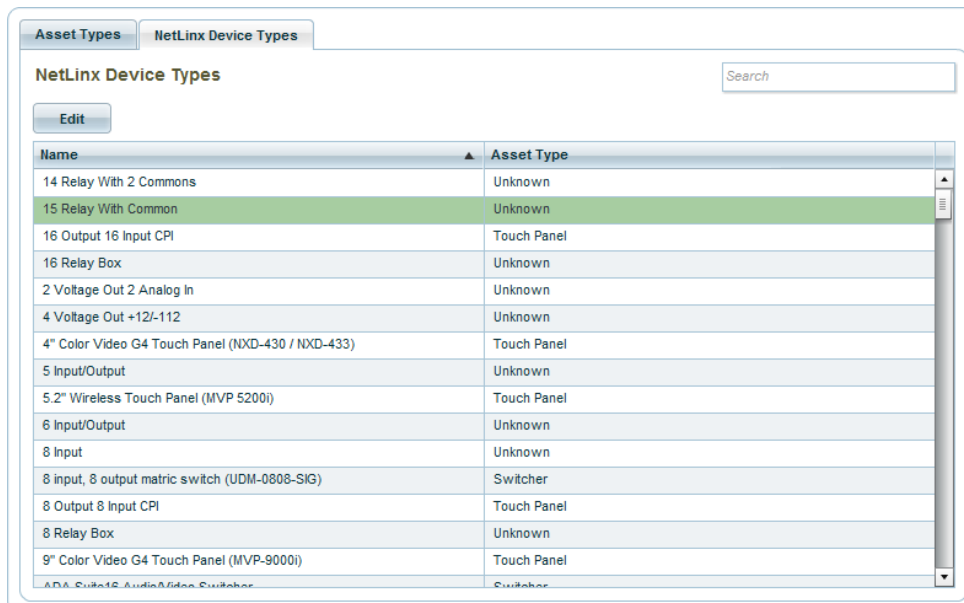

FIG. 413 Asset Types page (NetLinX Device Types tab)
The **NetLinX Device Types** tab provides a listing of all pre-defined NetLinX device types. Use the options in the **NetLinX Device Types** tab to configure and manage NetLinX device types (FIG. 413):
2. In the **NetLinx Device Types** tab (FIG. 413 on page 256), select the NetLinx Device Type that you want to edit.